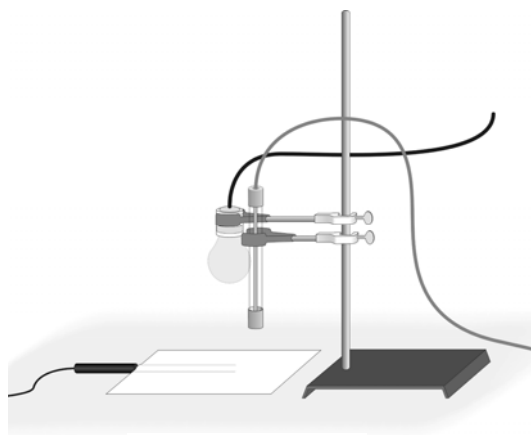

Figure 2
- d. Use a utility clamp and ring stand to fasten a Light Sensor 5 cm above the paper as shown in Figure 2. Set the Light Sensor switch to the 0–6000 lux position.